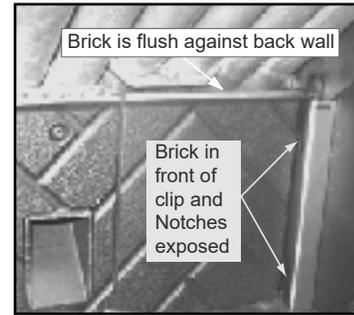
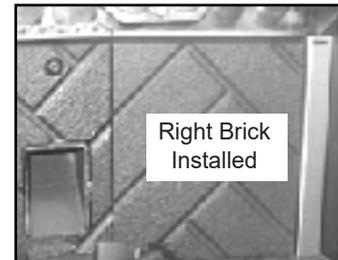

Figure 26.4
Figure 26.5
3. Reinstall bricks in reverse order ensuring that the bricks are flush against the back wall of the firebox (**Figure 26.4** and **Figure 26.5**).